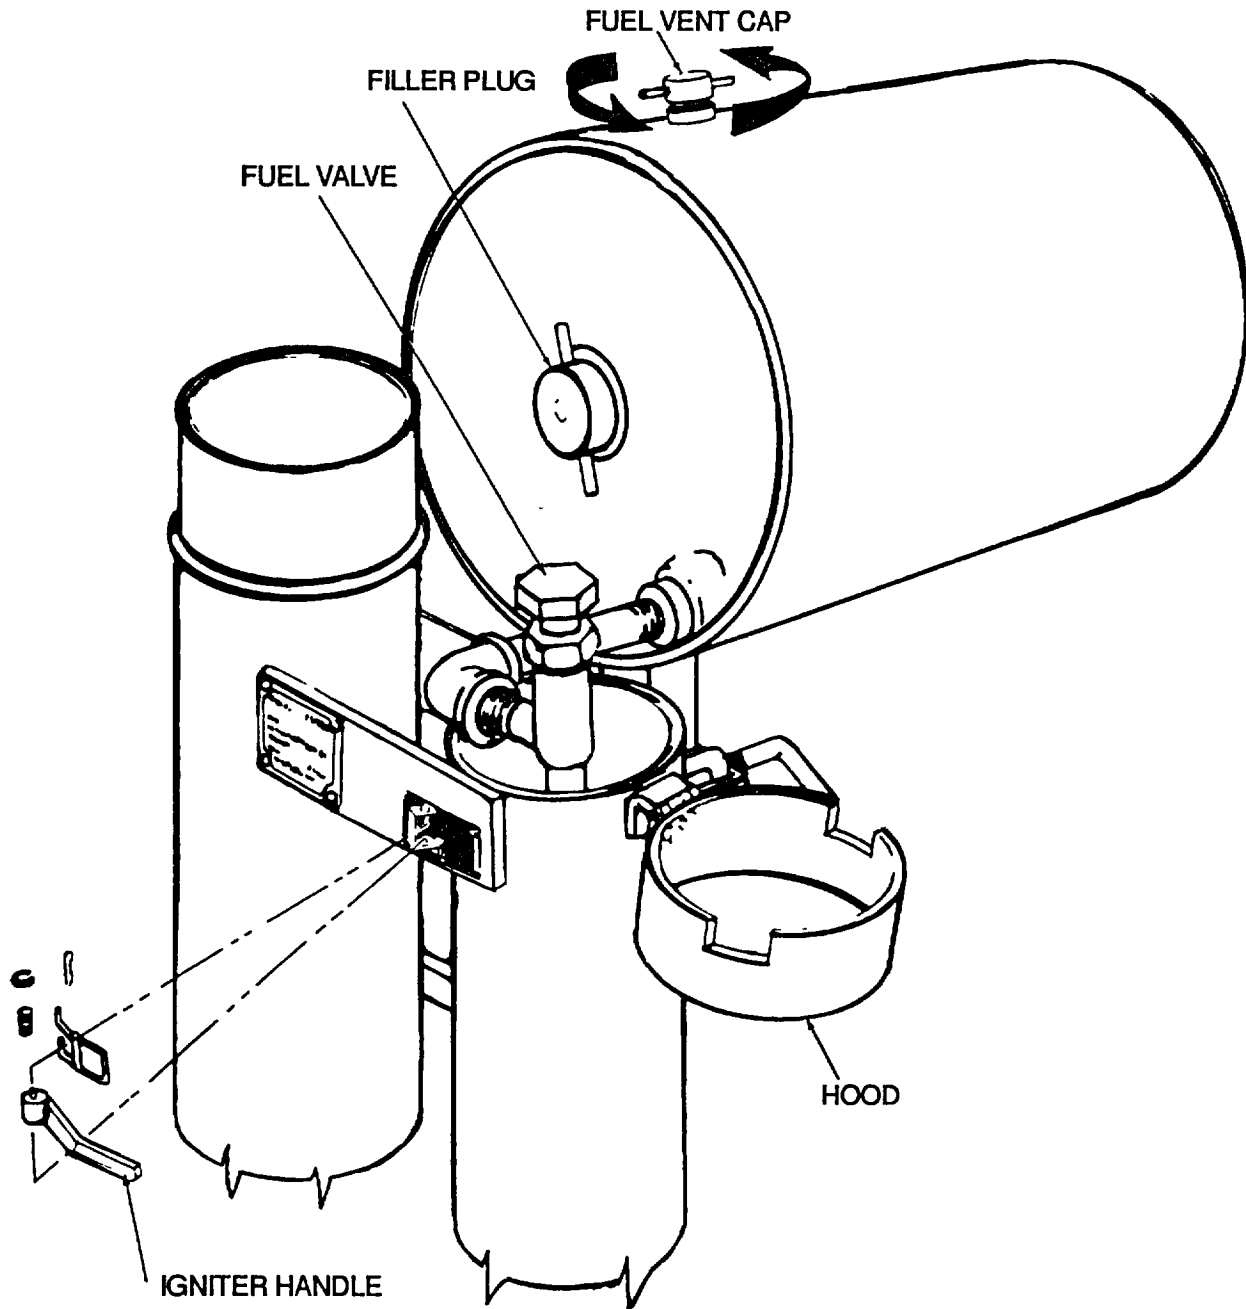

Figure 3-2. Operating Components
- a. Check that the fuel vent plug is open (Figure 3-2).